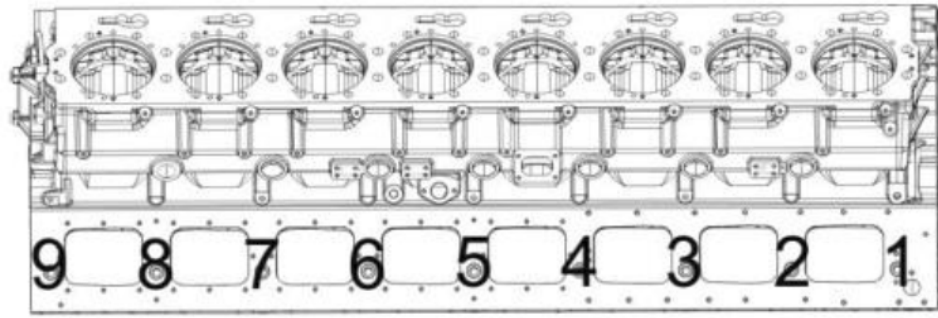

Figure 126.
- ii. Tighten both sides of the auxiliary bolts (1-9) to 59 ft/lb (Figure 126).
- v. Tighten both sides of the auxiliary bolts (1-9) to 199 ft/lb (Figure 126).